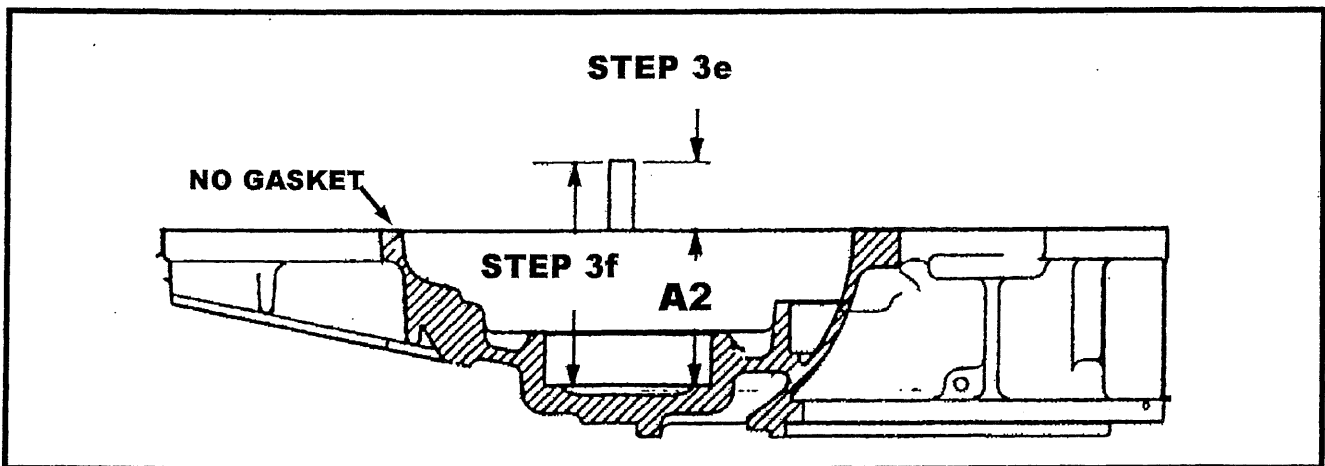

Figure 1-4 Cover cut away
3. Measure the distance from the cover gasket surface (**do not use a gasket to make this measurement**) to the bearing cup seat in the cover as shown in figure 1-4.